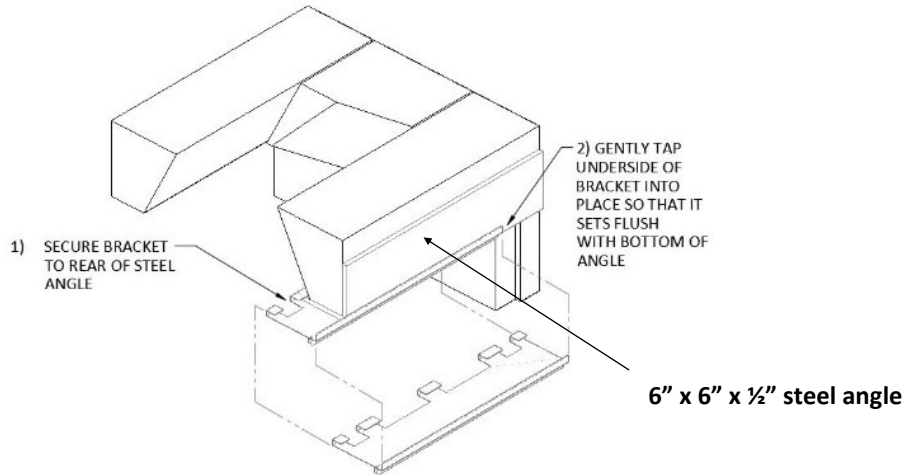

FIGURE 15
- 9) For the 60", 72", 96" and 120" models, once the dampers beams are set into place, secure the Top Glass Bracket A (E-TG2) in place with the bottom of the angle steel as shown **(Figure 15)**. Each model will require a different number of these to be spaced equally across the firebox's opening. Tap them into place utilizing a rubber mallet to prevent marring the finish.